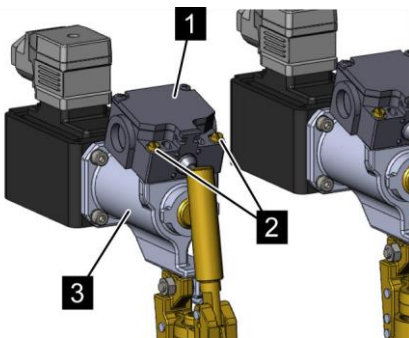

Fig. 110: Mounting the limit switches
12. ➤ Loosely fasten the limit switch (Fig. 110/1) with cylinder screws and washers on the holder of the EM release device (Fig. 110/3).
13. ➤ Align the limit switch (Fig. 110/1) in such a manner that the contact is activated with the valve lever.
14. ➤ Tighten the cylinder screws (Fig. 110/2).